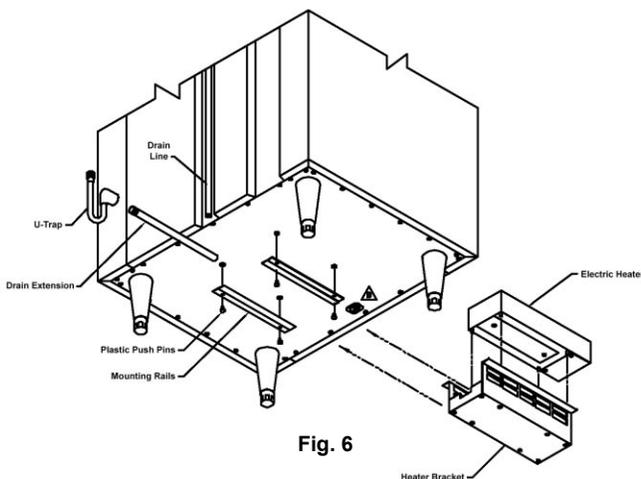

Fig. 6
After the cabinet has been uncrated and the legs/casters attached, you must install the bottom-mounted electric condensate evaporator. Locate the four (4) holes on the exterior bottom towards the rear of the cabinet. Then, using the four (4) plastic push pins provided, attach the mounting rails to the cabinet bottom (the end flange is to be up and be facing towards the cabinet rear). Next, place the heater into the heater bracket (note the enclosed springs are only to be used when the heater is placed on the floor). Slide heater and bracket into the mounting rails. Plug the supplied cord into both the heater on one end, and the electrical outlet provided on the cabinet exterior bottom towards the front (see figure 6). Screw the "U-Trap" on to the drain line located on the rear of the cabinet and then screw the drain extension into the "U-Trap."